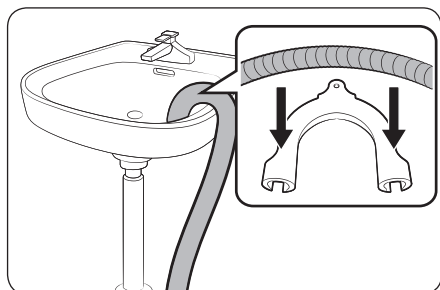

Fig. 9
- Hook the U-Connector over the side or stand pipe (Fig. 9)